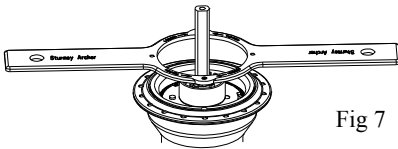

Fig 7
4. Put the internal assembly into the hub shell and tighten the ball ring to a torque of 40Nm. (Fig.8 and Fig.7)